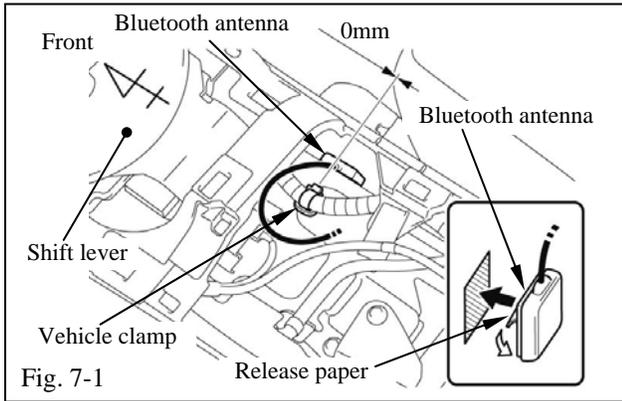

Fig. 7-1
- (1) Move the center console box to the vehicle rear so that the Bluetooth antenna can be attached (Fig. 7-1).
- (2) Remove the release paper from the Bluetooth antenna (Fig. 7-1).
- (3) Align the Bluetooth antenna with the vehicle clamp and attach it to the center tunnel on the passenger side (Fig. 7-1).